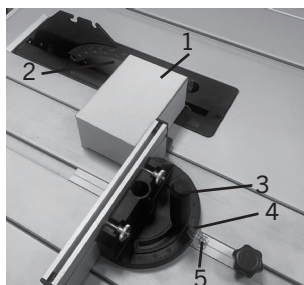

FIG. 16
4. Ensure the miter gauge is square against the saw blade. Place a square (1) (Fig.16) against the blade (2), loosen lock handle (3) and place the miter gauge against the square. Once the miter gauge is perfectly square with the blade, re-tighten lock handle (3). If the pointer (4) requires alignment, loosen screw (5) and reposition the pointer, re-tighten screw.